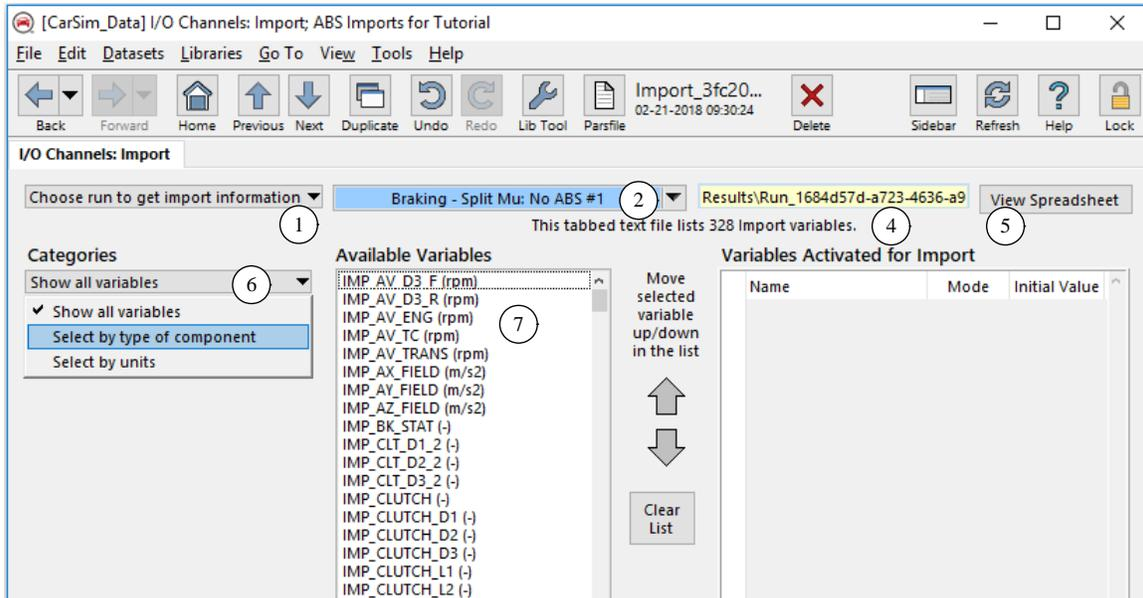

Figure 27. Import screen appearance after a Run Control dataset was selected.
2. Use the drop-down control for the potential link (2) to choose a **Run Control** dataset that involves the vehicle of interest. For this example, select the braking run that was created earlier
3. When you select the **Run Control** dataset, the VS Browser will jump to the **Run Control** screen and then jump back to the Import screen. The Import screen now has information about all of the Import variables that exist in the model and can potentially be activated for use with Simulink (Figure 27).
- Use the **Categories** drop-down control on the Imports screen (6) (Figure 27) to choose the option **Select by type of component**. Notice that a list of component types is shown under the control (8) (Figure 29).